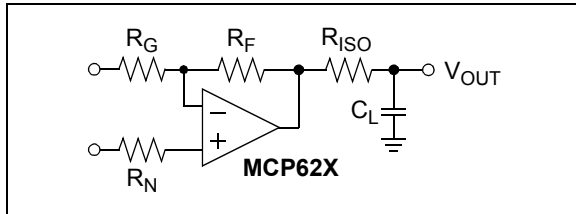

FIGURE 4-9: Output Resistor, R_{ISO} Stabilizes Large Capacitive Loads.
- Limit I_{OUT} using R_{ISO} (see Figure 4-9)
When driving large capacitive loads with these op amps (e.g., > 10 pF when $G = +1$), a small series resistor at the output (R_{ISO} in Figure 4-9) improves the feedback loop's phase margin (stability) by making the output load resistive at higher frequencies. The bandwidth will be generally lower than the bandwidth with no capacitive load.